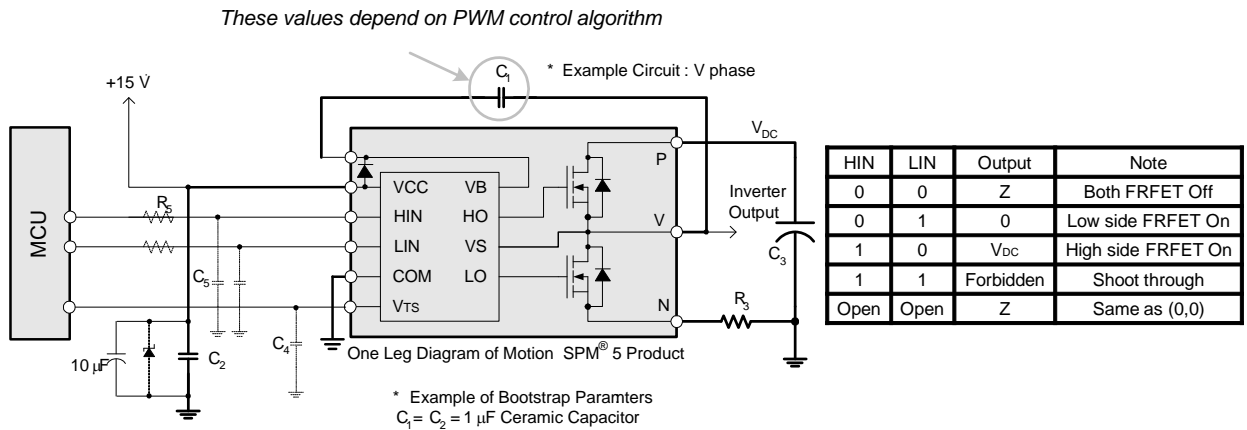

Figure 4. Recommended MCU Interface and Bootstrap Circuit with Parameters
- Source terminal of each low-side MOSFET is not connected to supply ground or bias voltage ground inside Motion SPM® 5 product. External connections should be made as indicated in Figure 4.